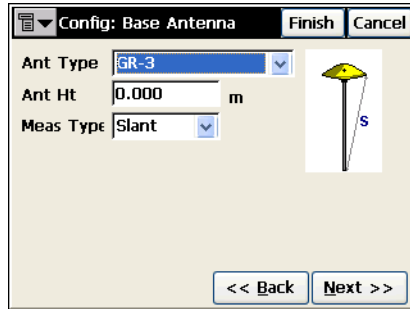

Figure 2-31. Config: Base Antenna
- **Next:** opens the *Config: Base Radio Param* screen to set parameters for the chosen modem (for details see “Config: Base Radio Parameters” on page 2-21). Opens the **Base Antenna** screen if the selected modem type does not require additional settings (Figure 2-31 on page 2-26).